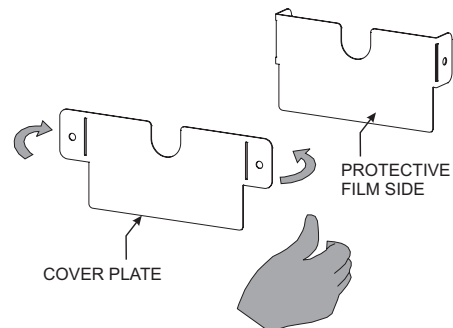

Figure 4
**For R3 Series Grill Heads:** Bend the tabs on the Post Cover Plate to 90° as shown in Figure 4.